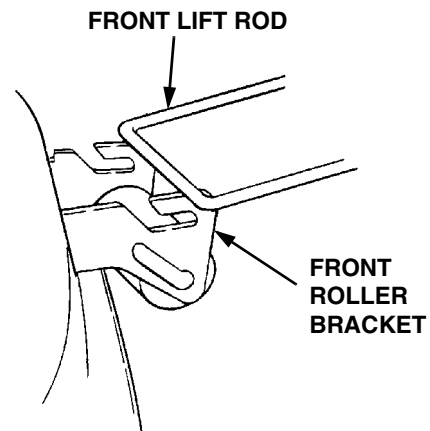

Figure 42
8. Raise the front lift rod upward and slide the mower deck rearward. Lower the front lift rod so it rests on the front roller bracket of the deck, forward of the slots (See Figure 42).